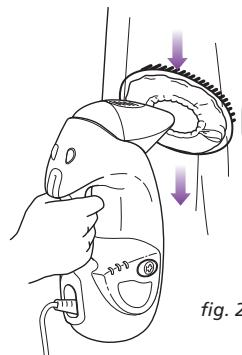

fig. 20
- 5 Select the steam setting and wait until the selected setting indicator light turns solid blue. Press and hold the steam trigger button, and move slowly up and down over your garments or upholstery. (fig. 20)